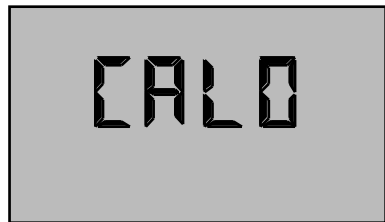

Figure 1
3. Press the **MR** key until "CAL0" appears. Fig. 1.